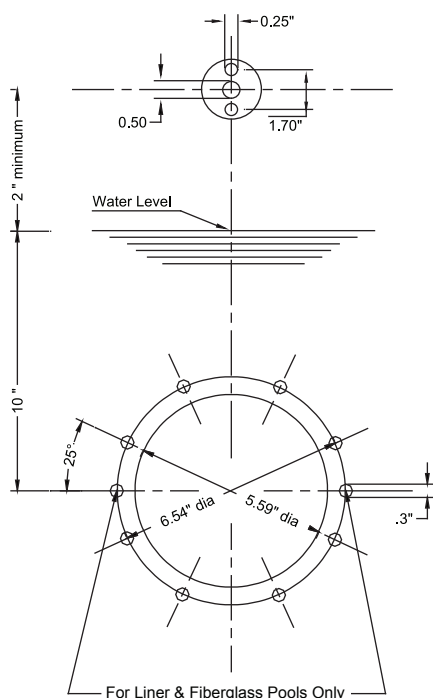

Figure 10
2. Mount the housing (*part #7*) and one gasket (*part #12*) on the outside of the pool wall using two screws 14 x 1" (*part #27*). Install the screws from the inside of the pool wall through the holes drilled at 3 and 9 o'clock positions. (See *Figure 10 & 11*)
4. For the air regulator assembly, one 1/2" hole must be provided, preferably along the vertical axis, approximately 4" (or minimum 2") ABOVE the water line. (See *Figure 10 & 11*). Using the air regulator assembly gasket (*part #21*), mark and drill two 1/4" mounting holes. (See *Figure 10*) Use two flat head 1/4 - 20 machines screws (*part #18*) and two 1/4-20 nuts (*part #19*) to mount the air regulator. (NOTE: *The flat head on the inside of the pool wall and the nut on the outside of the pool wall.*)
For Steel Walled Pools: An optional butterfly gasket (*part #12A*) maybe purchased to replace the two gaskets (*part #12*). Increase the jet housing hole from 5.59" to 5.75" for installation. (See *Figure 10*)